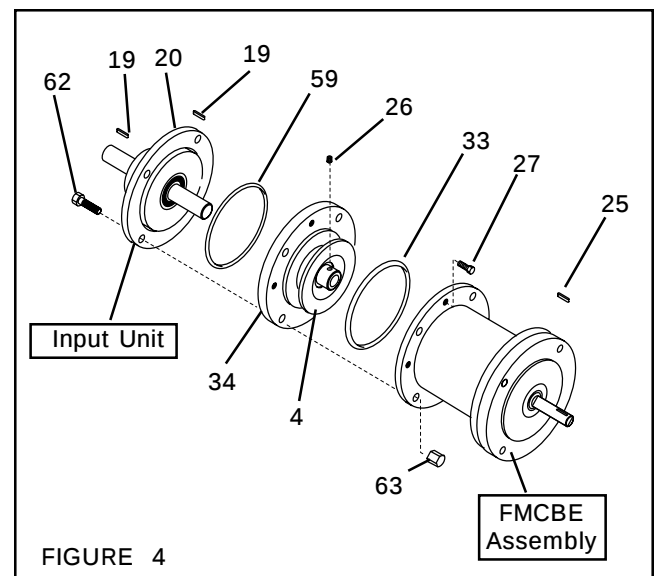

FIGURE 4
1. Coat the O-ring Seal (Item 59) and the seal contact surface with a film of O-ring lubricant; then, wipe off any excess lubricant (See Figure 4).
2. Place the O-ring Seal (Item 59) into the seal groove of the Input Unit Bearing Flange (Item 20) (See Figure 4).
3. Slide the Female Pilot (Item 34) and Drive Disc (Item 4) onto the Input Unit shaft (See Figure 4).
4. Tighten the Set Screw (Item 26) to lock the Drive Disc (Item 4) onto the motor shaft (See Figure 4).
5. Coat the O-ring Seal (Item 33) and the seal contact surface with a film of O-ring lubricant; then, wipe off any excess lubricant (See Figure 4).
6. Place the O-ring Seal (Item 33) onto the seal diameter of the Female Pilot (Item 34) (See Figure 4).
7. Slide the FMCBE Assembly onto the Female Pilot (Item 34) and the Drive Disc (Item 4) (See Figure 4).
8. Using four Nexen supplied 0.375-16 x 1.750" Hex. Head Cap Screws (Item 62) and Acorn Nuts (Item 63), secure the Female Pilot, Drive Disc, and FMCBE Assembly to the Input Unit (Item 20) (See Figure 4).
10. Using eight Nexen supplied 10-24 x 0.750" Hex. Head Caps Screws (Item 27), secure the FMCBE Assembly to the Female Pilot and Drive Disc (See Figure 4).